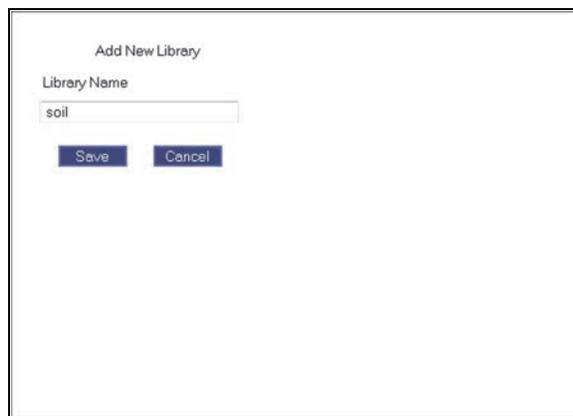

Figure 6-3 The Add New Library pane
5. Click **New Library** to display the **Add New Library** pane (see Figure 6-3 on page 85).